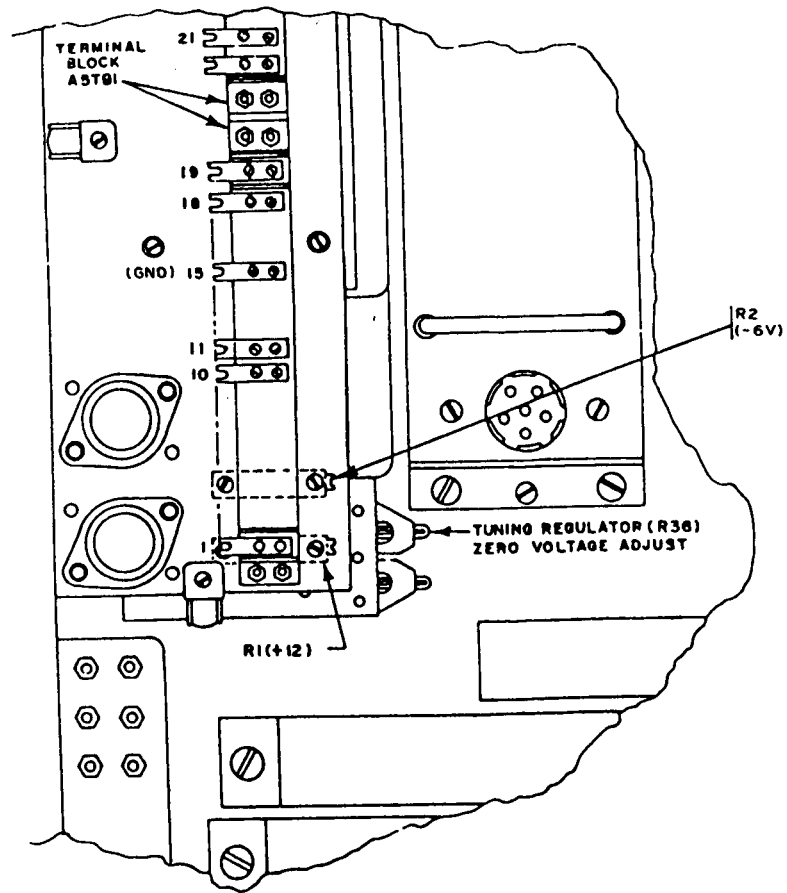

Figure 3. Power supply - adjustment locations.
- (2) Remove bottom cover from TI.
- (3) Connect digital voltmeter positive lead to A5TB1-10 and negative lead to A5TB1 (GND) -15 (fig. 3). If digital voltmeter does not indicate between +11.95 and +12.05 V dc, perform **b(1)** below.
- (4) Move digital voltmeter positive lead to A5TB1-11 (fig. 3). If digital voltmeter does not indicate between -5.95 and -6.05 V dc, perform **b(2)** below.
- (5) Adjust **COARSE TUNING** control to low frequency end of band 7.
- (6) Connect digital voltmeter negative lead to A5TB1 (GND) -15 (fig. 3) and positive lead to tuning voltage test point (labeled "TV" on tuner cover). If digital voltmeter does not indicate between -0.05 and +0.05 V dc, perform **b(3)** below.
- (7) Adjust **COARSE TUNING** control to high end of band 7. If digital voltmeter does not indicate between +97.9 and +98.1 V dc, perform **b(4)** below.
- (1) Adjust R1 (+12 V) (fig. 3) for +12.00-V dc indication on digital voltmeter (R).
- (2) Adjust R2 (-6 V) (fig. 3) for -6.00-V dc indication on digital voltmeter (R).
- (3) Adjust TUNING REGULATOR ZERO VOLTAGE ADJUST R36 (fig. 3) for 0.00-V dc indication on digital voltmeter (R).